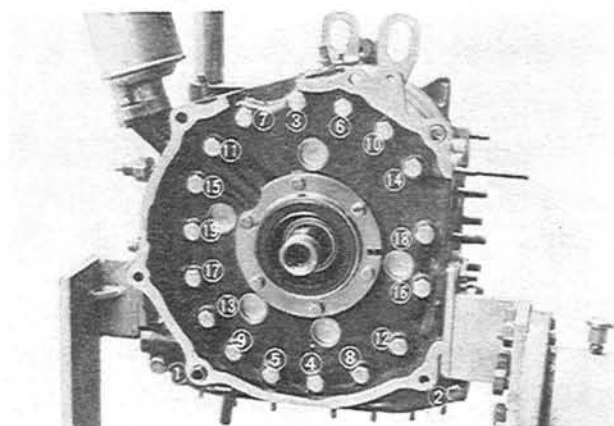

Fig. 1-18 Loosening order
16. Loosen the tension bolts in the order as shown in Fig. 1-18.